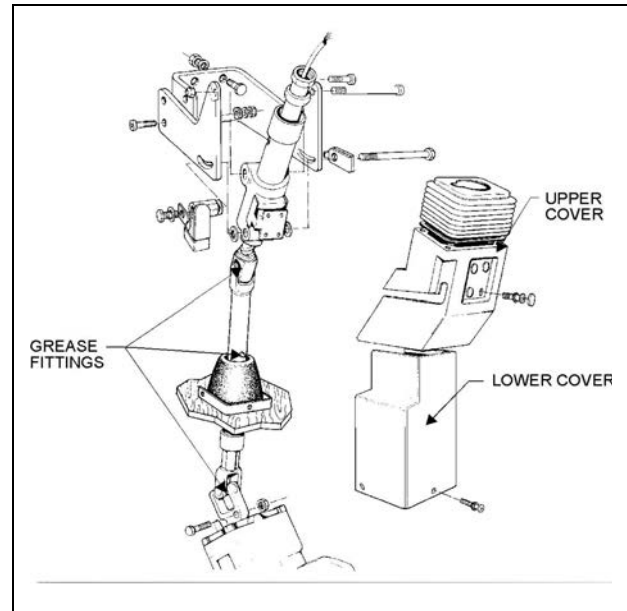

FIGURE 3: STEERING COLUMN
To disassemble the steering column, refer to Figure 3 as a guide. The steering column has three lubrication points which must be serviced only when needed, using a good quality lithium-base grease NLGI No. 1 and 2. The lower steering column U-joint grease fitting is easily accessible through the front service compartment. The upper steering column U-joint and the steering slip joint grease fittings are accessible from the front driver's area. To access these fittings, proceed as follows:
1. From the front driver's area, unfasten and lift the steering column boot, then remove the four snap caps on front of upper steering column cover (Fig. 3).